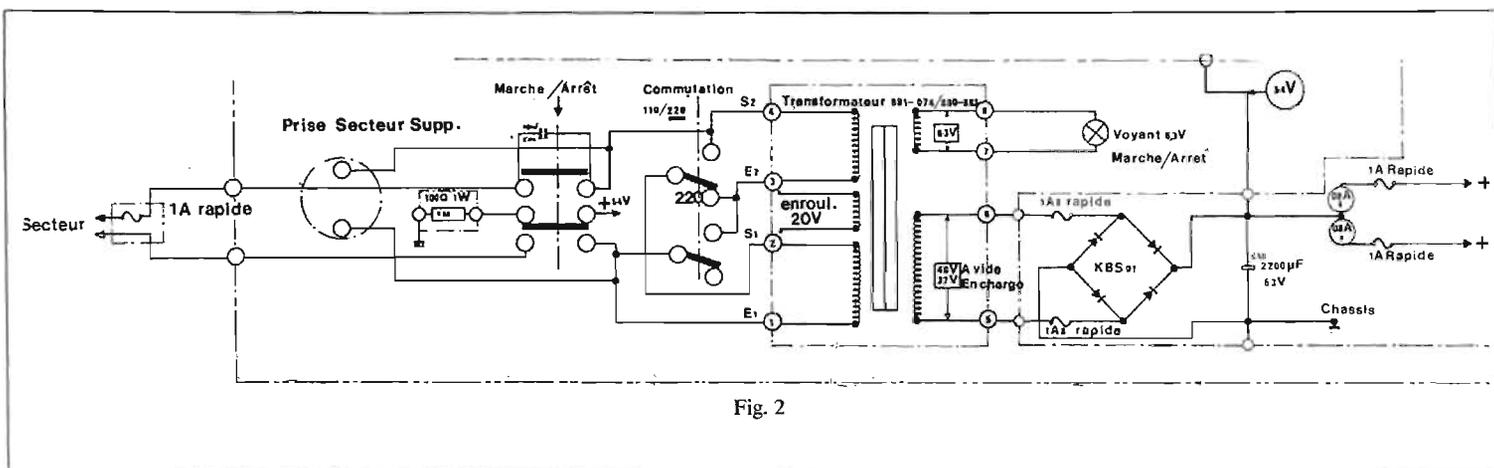

Fig. 2
E. — L'ALIMENTATION HT/BT. (Fig. 2)